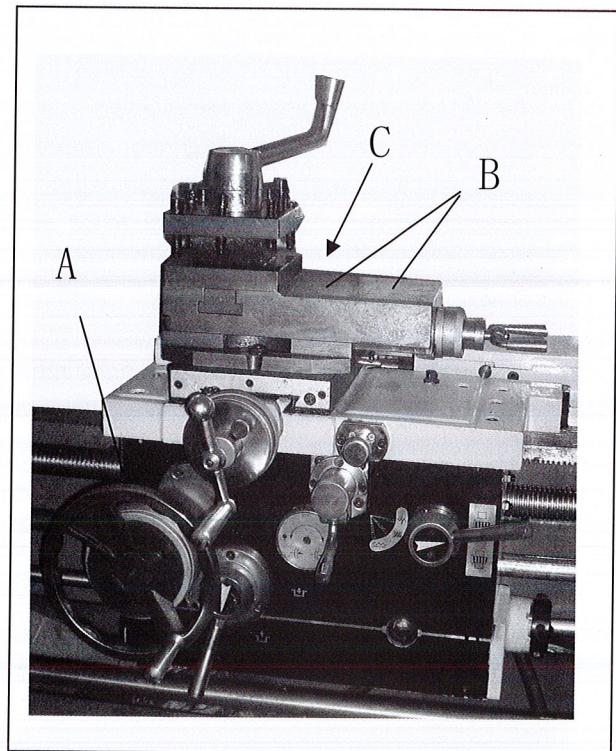

Fig.7
5. **Saddle:** Lubricate ball oiler (A, Fig. 7) on handwheel shaft with Mobil DTE® Oil Heavy Medium oil daily.
6. **Compound Rest:** Lubricate four ball oilers (B, Fig. 7) on top of compound slide with Mobil DTE® Oil Heavy Medium oil daily.
7. **Cross Slide:** Lubricate one ball oiler (C, Fig. 7) with Mobil DTE® Oil Heavy Medium oil daily.